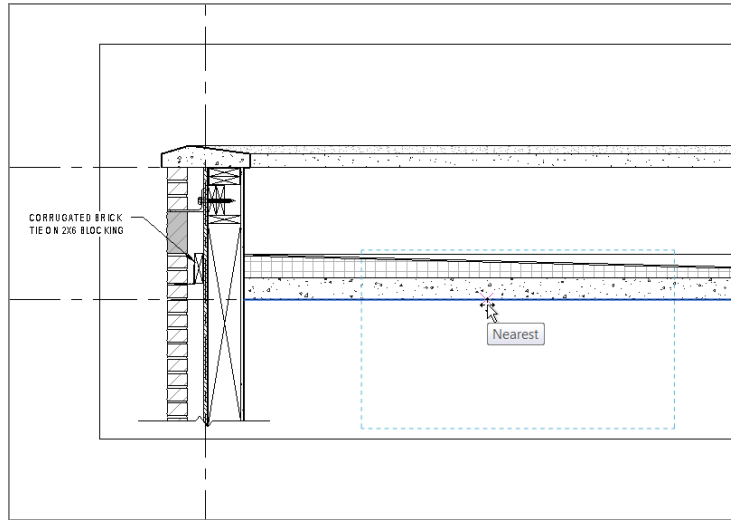

FIGURE 12.66: Picking a point along the bottom of the roof to place the group
4. Pick a point along the bottom of the roof, similar to what is shown in Figure 12.66.